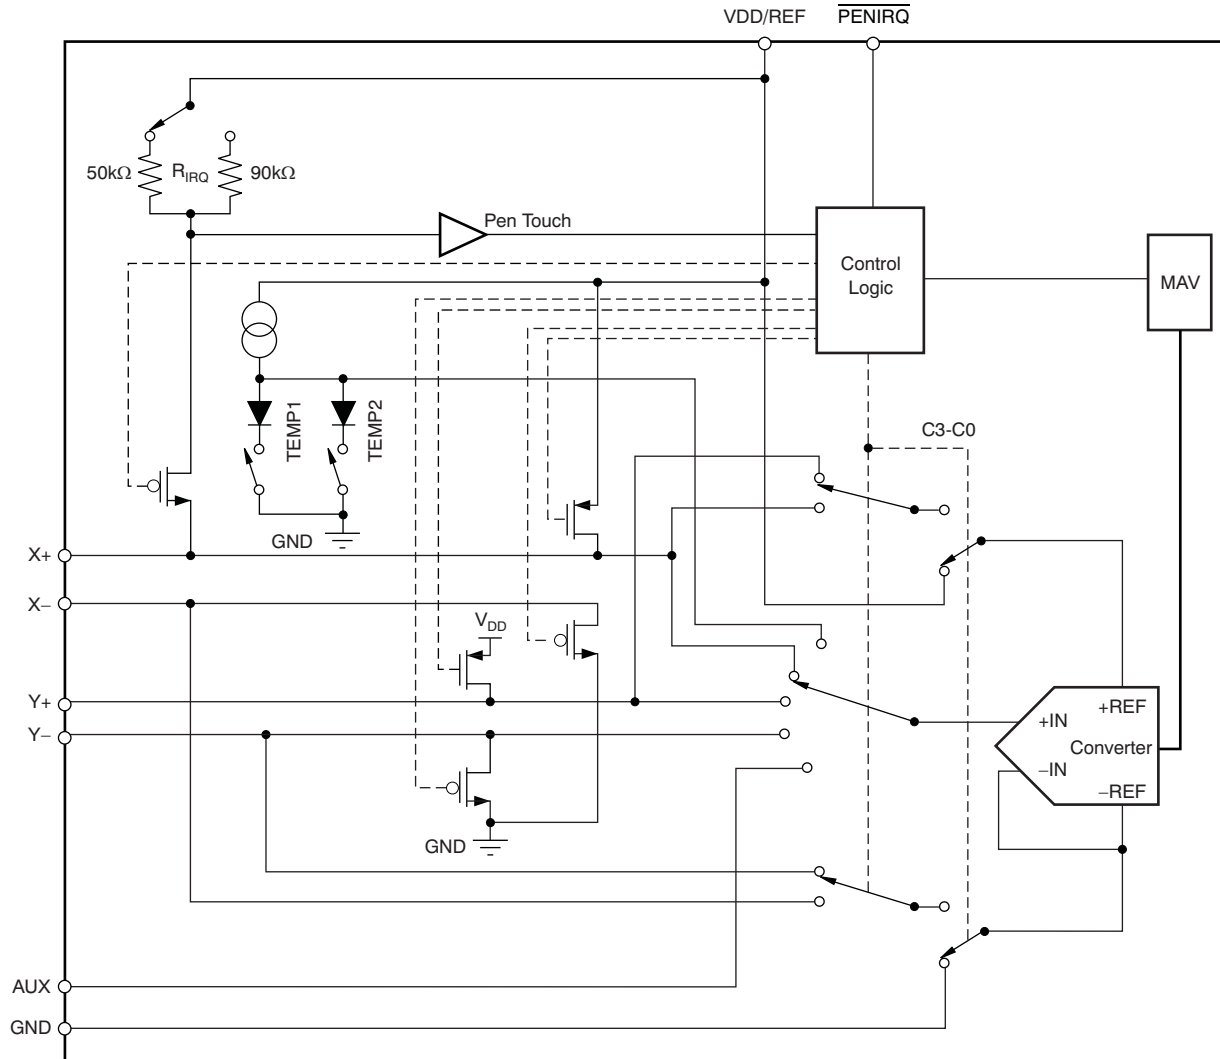

Figure 23. Analog Input Section (Simplified Diagram)
Figure 23 shows the analog inputs of the TSC2007-Q1. The analog inputs (X, Y, and Z touch panel coordinates, chip temperature and auxiliary inputs) are provided via a multiplexer to the Successive Approximation Register (SAR) A/D converter. The A/D architecture is based on capacitive redistribution architecture, which inherently includes a sample-and-hold function.
- (1) Reference voltage at converter: +REF – (–REF). See Figure 23.
- (2) Input voltage at converter, after multiplexer: +IN – (–IN). See Figure 23.